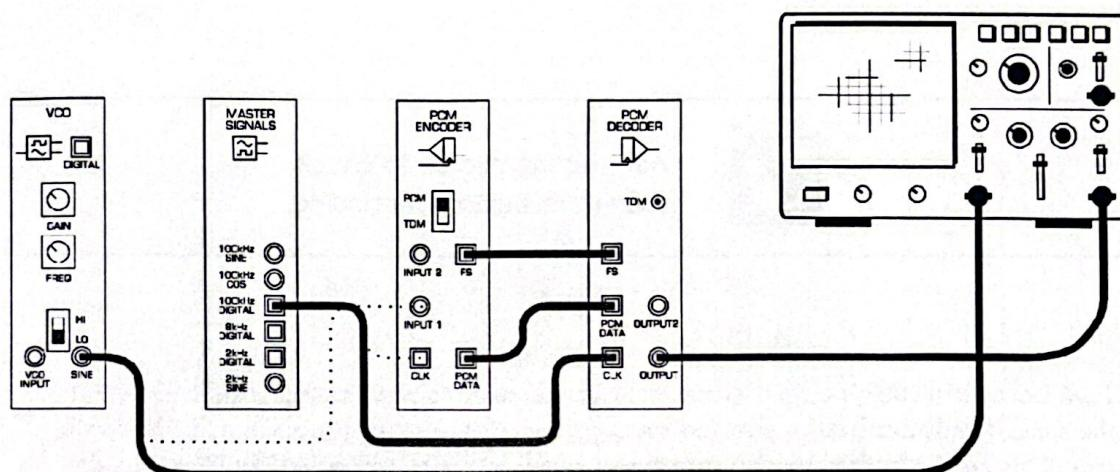

Figure 5
16. Modify the set-up as shown in Figure 5 below.